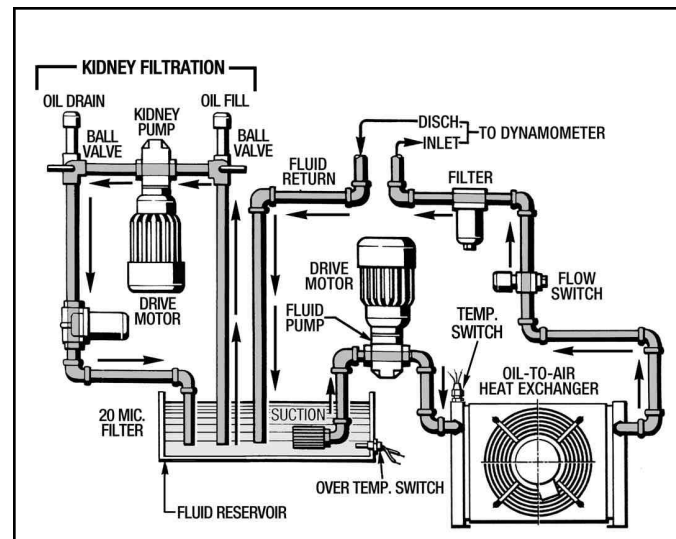

Figure 1.6 - Oil to Air With Kidney Filtration
4. Oil to Air with Kidney Filtration (See *Figure 1.6*)